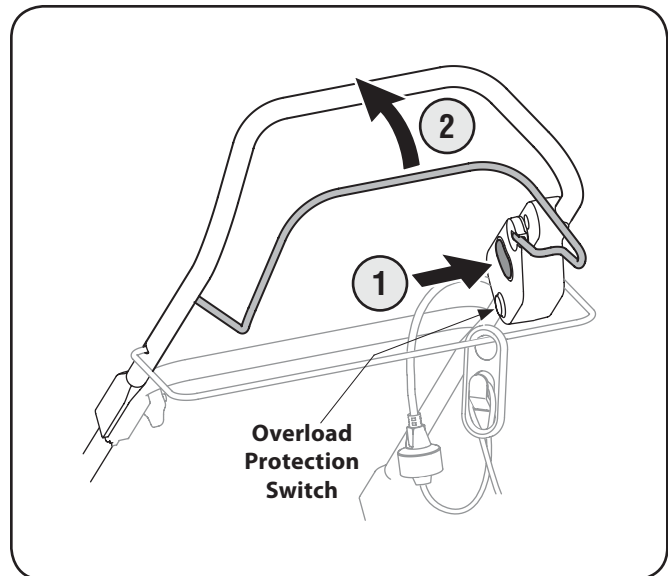

Figure 5-2
2. Stand behind the mower, in the operating position, depress the (red) starter button and hold it in. See Fig. 5-2.
4. While holding the starter button in, pivot the motor/blade control handle upward against the upper handle to start the motor and engage the blade. See Fig. 5-2.